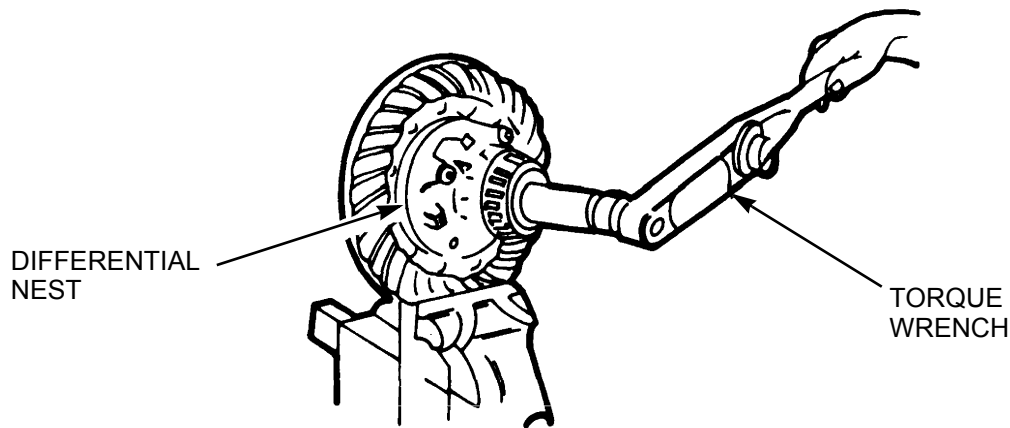

Figure 4. Check Rolling Resistance.
- (3) Using a suitable socket and torque wrench, rotate the differential nest while observing the scale on the torque wrench (fig. 4). Correct rolling resistance of the differential assembly is 50 lb-ft (68 Nm) torque maximum applied to one side gear.